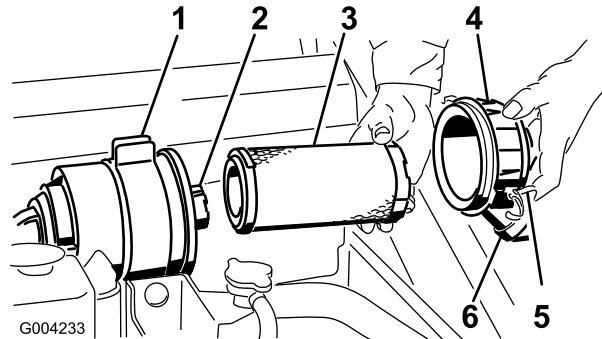

Figure 33
3. Release the latches on the air cleaner and pull the air cleaner cover off of the air cleaner body (Figure 33).
6. Gently slide the primary filter out of the air cleaner body (Figure 33). Avoid knocking the filter into the side of the body.
9. If you are replacing the safety filter, carefully slide the new filter into the filter body (Figure 33).
- Carefully slide the primary filter over the safety filter (Figure 33). Ensure that it is fully seated by pushing on the outer rim of the filter while installing it.
- Install the air cleaner cover with the side indicated as UP facing up and secure the latches (Figure 33).